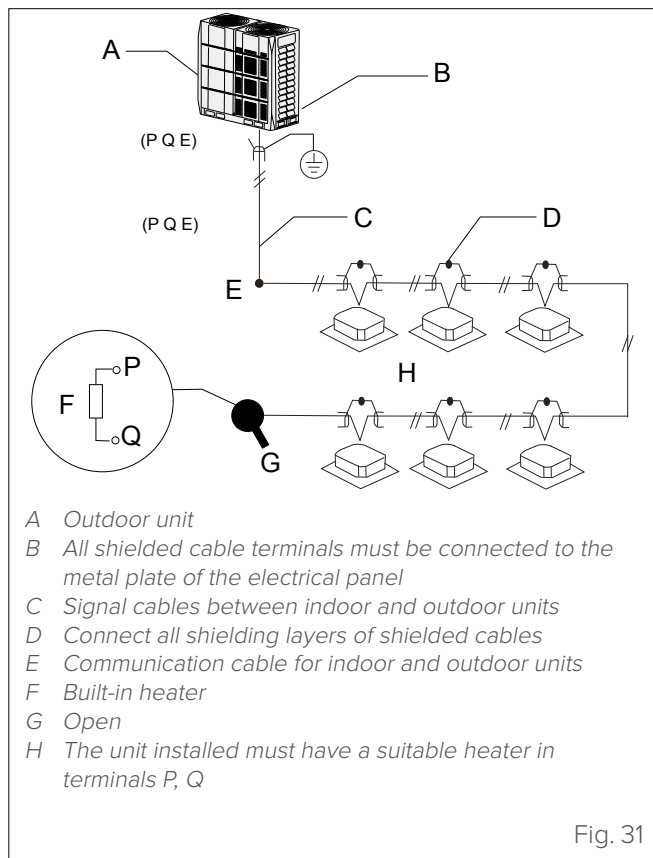

Fig. 31
- To increase the stability of the communication system, add a resistor to the last indoor unit. See “Fig. 31”.
- Use 1 wired controller or 2 wired controllers (one main and one secondary) to control 1 indoor unit (See “Fig. 31”);